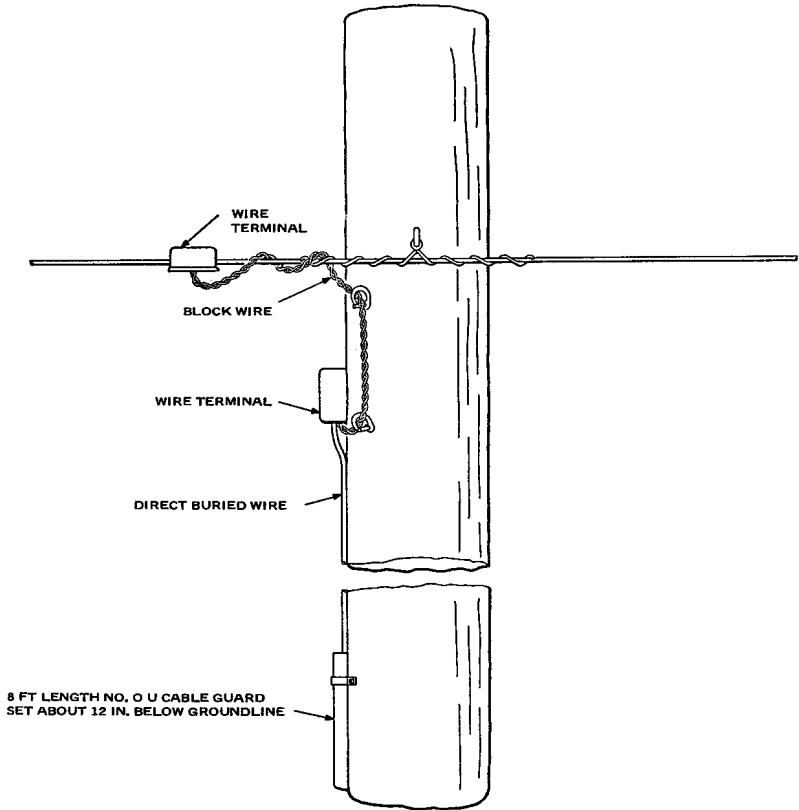

FIGURE 6. Termination of Underground Wire and Rural Wire
4.02 At the junction with C rural wire, direct buried wire can be brought up a pole and terminated in a pole mounted wire terminal. At the groundline, the direct buried wire should be covered with an 8 foot length of No. 0 U cable guard. The armor wire should be cut off as shown in Figure 2. Block wire should be used to bridge between the pole mounted wire terminal and the strand mounted wire terminal on the C rural wire. A typical installation is shown in Figure 6.